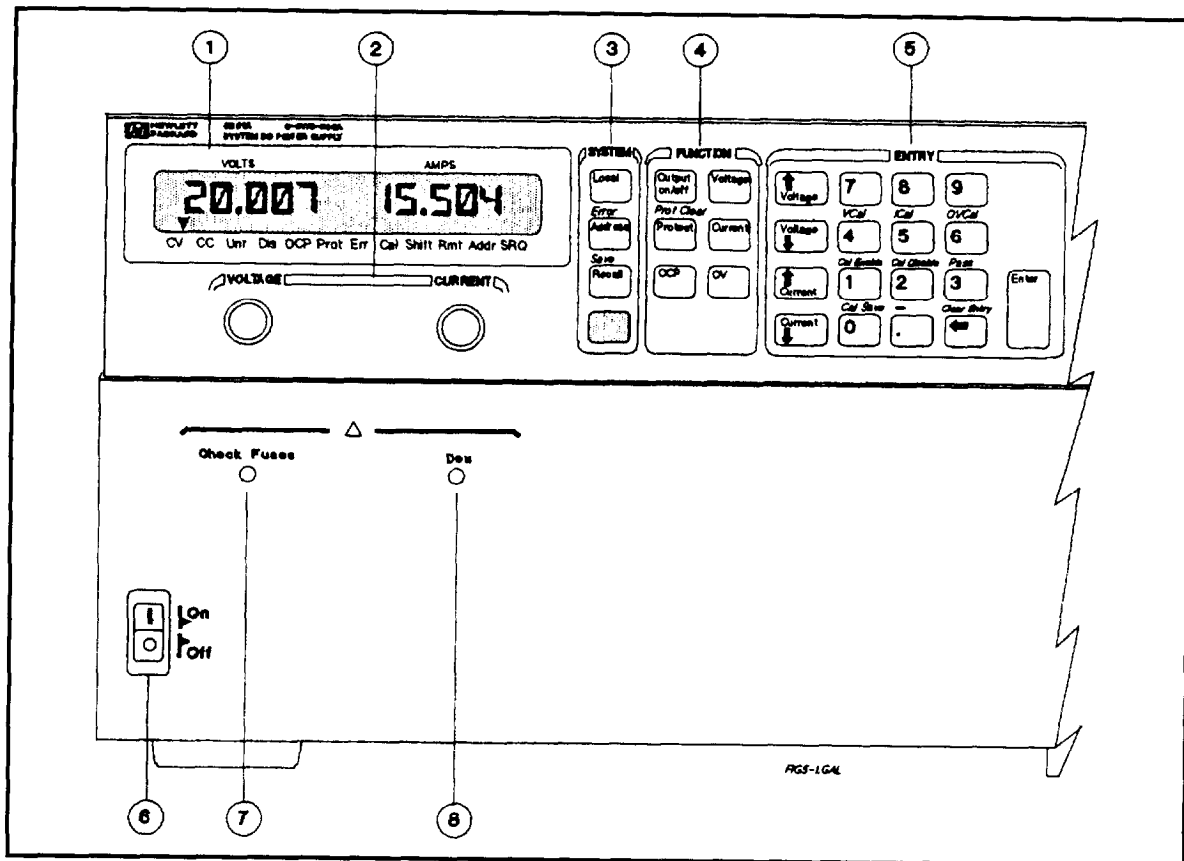

Figure 5-1. Front Panel Controls and Indicators
The front panel is summarized in Figure 5-1 and Table 5-1. Note that the panel is organized as follows:
- ① LCD display (including annunciators)
- ② Output VOLTAGE and CURRENT rotary (RPG) knobs
- ③ SYSTEM keypad
- ④ FUNCTION keypad
- ⑤ ENTRY keypad
- ⑥ Power (LINE) switch
- ⑦ Fuse LED (Series 668xA only)
- ⑧ DEW LED (Series 668xA only)
Some keys have two functions. For example, the System **Recall** key (3, Figure 5-1) can be used either to recall a stored operating state or to **Save** (store) an operating state. The first operation is shown **on** the key and the second (shifted) operation is shown in blue **above** the key. In order to do a shifted operation, first press the solid blue key, which is unlabeled but shown throughout this manual as **Shift**.
Table 5-1. Front Panel Controls and Indicators (See Figure 5-1)